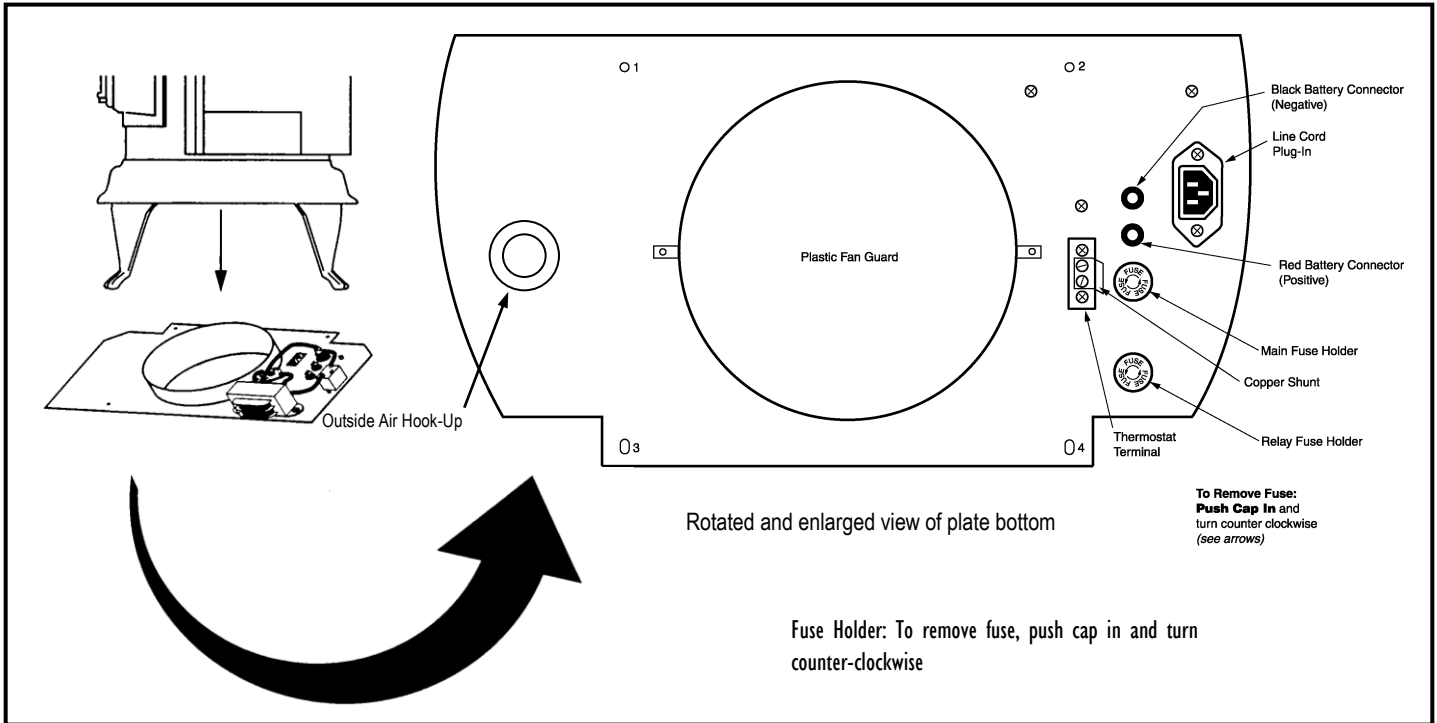

FIGURE 10
This unit has been approved for use with a **3" and 4" Type L Pellet Vent System**. On runs in excess of 10' and installations per Figure 10, the 4" pipe must be used.
3. Outside air required (see Figure 10).
A wall or remote thermostat can be hooked to run the Parlour 3000 E.I. automatically. The following is a step-by-step procedure for installing the optional thermostat. Note connection terminals on the bottom right side of the unit (see Figure 10). Use 18/2 thermostat wire for installation.
2. Hook up the thermostat wires to terminals (see Figure 10). Remember to remove copper shunt. disconnected. If a remote thermostat is used you
will have to mount the "receiver" to the bottom of the stove with Velcro and then hook up receiver wires to the terminal (see Figure 10). Follow thermostat manufacturer's instructions.
carefully and make sure you use the built in thermostat terminals on the bottom of the stove. (See Figure 10) We recommend you run the heater on "High" for about 30 minutes to get the heat exchanger hot before turning it to "Low." You will need to burn the heater for a few hours before deciding which setting is best for your particular needs.